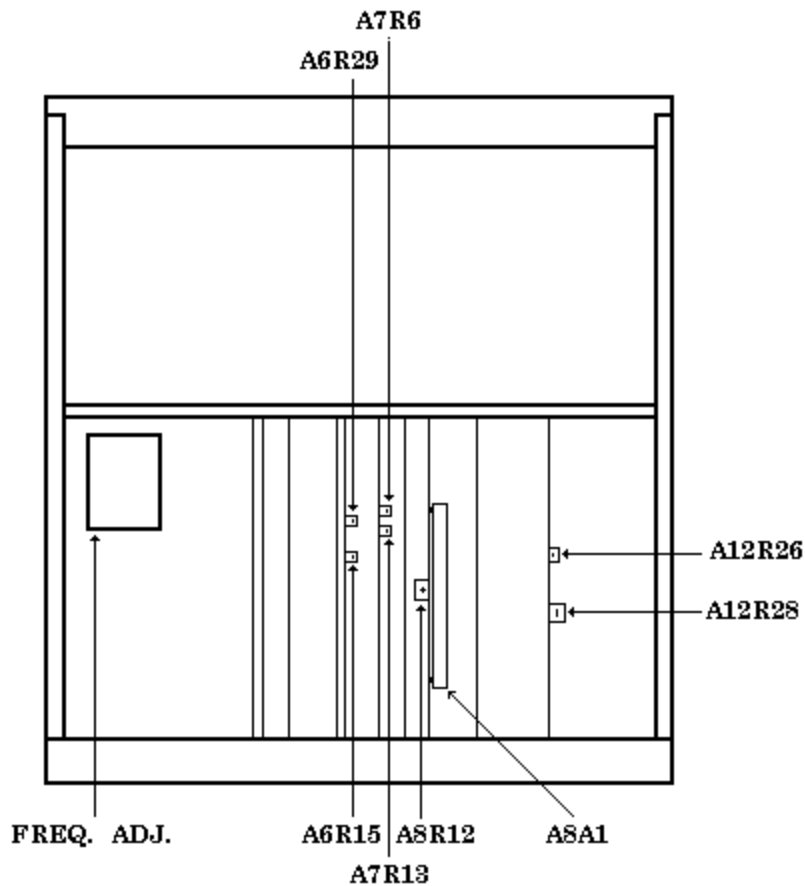

Figure 1. Test instrument - top view.
- (1) Connect time/frequency workstation **OUTPUT 1 MHz** to frequency difference meter **REF INPUT**.
- (2) Connect TI rear panel **10MHz OUT** to frequency difference meter **SIG INPUT**.
- (3) Adjust **FREQ ADJ** (fig. 1) for minimum difference indication on frequency difference meter. Record frequency difference meter indication.
(4) After 24 hour stabilization, frequency difference meter indication will be <5 parts in 10^{10} of indication recorded in (3) above. Record frequency difference meter indication.
(1) Connect signal generator **OUTPUT RF** to TI **INPUT A** using 50 Ω feedthrough termination.
(2) Set signal generator for a 100 MHz, 50 mV output.
(3) Slowly decrease signal generator amplitude to 25 mV while adjusting A12R28 (fig. 1) to obtain a stable indication of applied frequency (R). Continue decreasing signal generator amplitude while adjusting A12R28 (fig. 1) until maximum sensitivity is achieved.
(1) Connect signal generator **OUTPUT RF** to TI **INPUT B** using 50 Ω feedthrough termination.
(2) Set signal generator for a 40 MHz, 50 mV output.
(3) Slowly decrease signal generator amplitude while adjusting A12R26 (fig. 1) for a stable TI 4.00000 indication. Continue decreasing signal generator amplitude while adjusting A12R26 (fig. 1) until maximum sensitivity is obtained (R).
(1) Set TI **RESOLUTION, N** switch to **.1kHz**.
(2) Adjust A8R12 (fig. 1) fully ccw.
(3) Set signal generator for a 1299 MHz, 100 mV output. Slowly decrease signal generator amplitude while adjusting A8A1 (fig. 1) R22 for maximum sensitivity (at least 20 mV) and a stable indication at approximately 1299 MHz (R).
(4) Set signal generator for a 90 MHz, 100 mV output. Slowly decrease signal generator amplitude until TI displays erroneous indications above 100 MHz (Example: 101.nnnnn).
(5) Adjust A8R12 (fig. 1) until TI stops gating (R).
(6) Set signal generator for a 90 MHz, 125 mV output.
(7) Connect multimeter **INPUT HI** to A8A1 (fig. 1) pin 1 and **LO** to ground.
(8) Adjust A8A1 (fig. 1) R13 until multimeter indication switches from approximately 12 to 15 V dc to 10 V dc (R).
- (1) Adjust DVM zero A6R28 (accessible through a hole in TI front panel) for a TI indication between -0.0001 and +0.0001 (R).
- (2) Adjust A7R13 (fig. 1) for a TI indication between +9.4999 and +9.5001 (R).
- (3) Adjust A7R6 (fig. 1) for a TI indication between -9.4999 and -9.5001 (R).
- (4) Adjust A6R29 (fig. 1) for a TI indication between +94.999 and +95.001 (R).
- (5) Adjust A6R15 (fig. 1) for a TI indication between +949.99 and +950.01 (R).